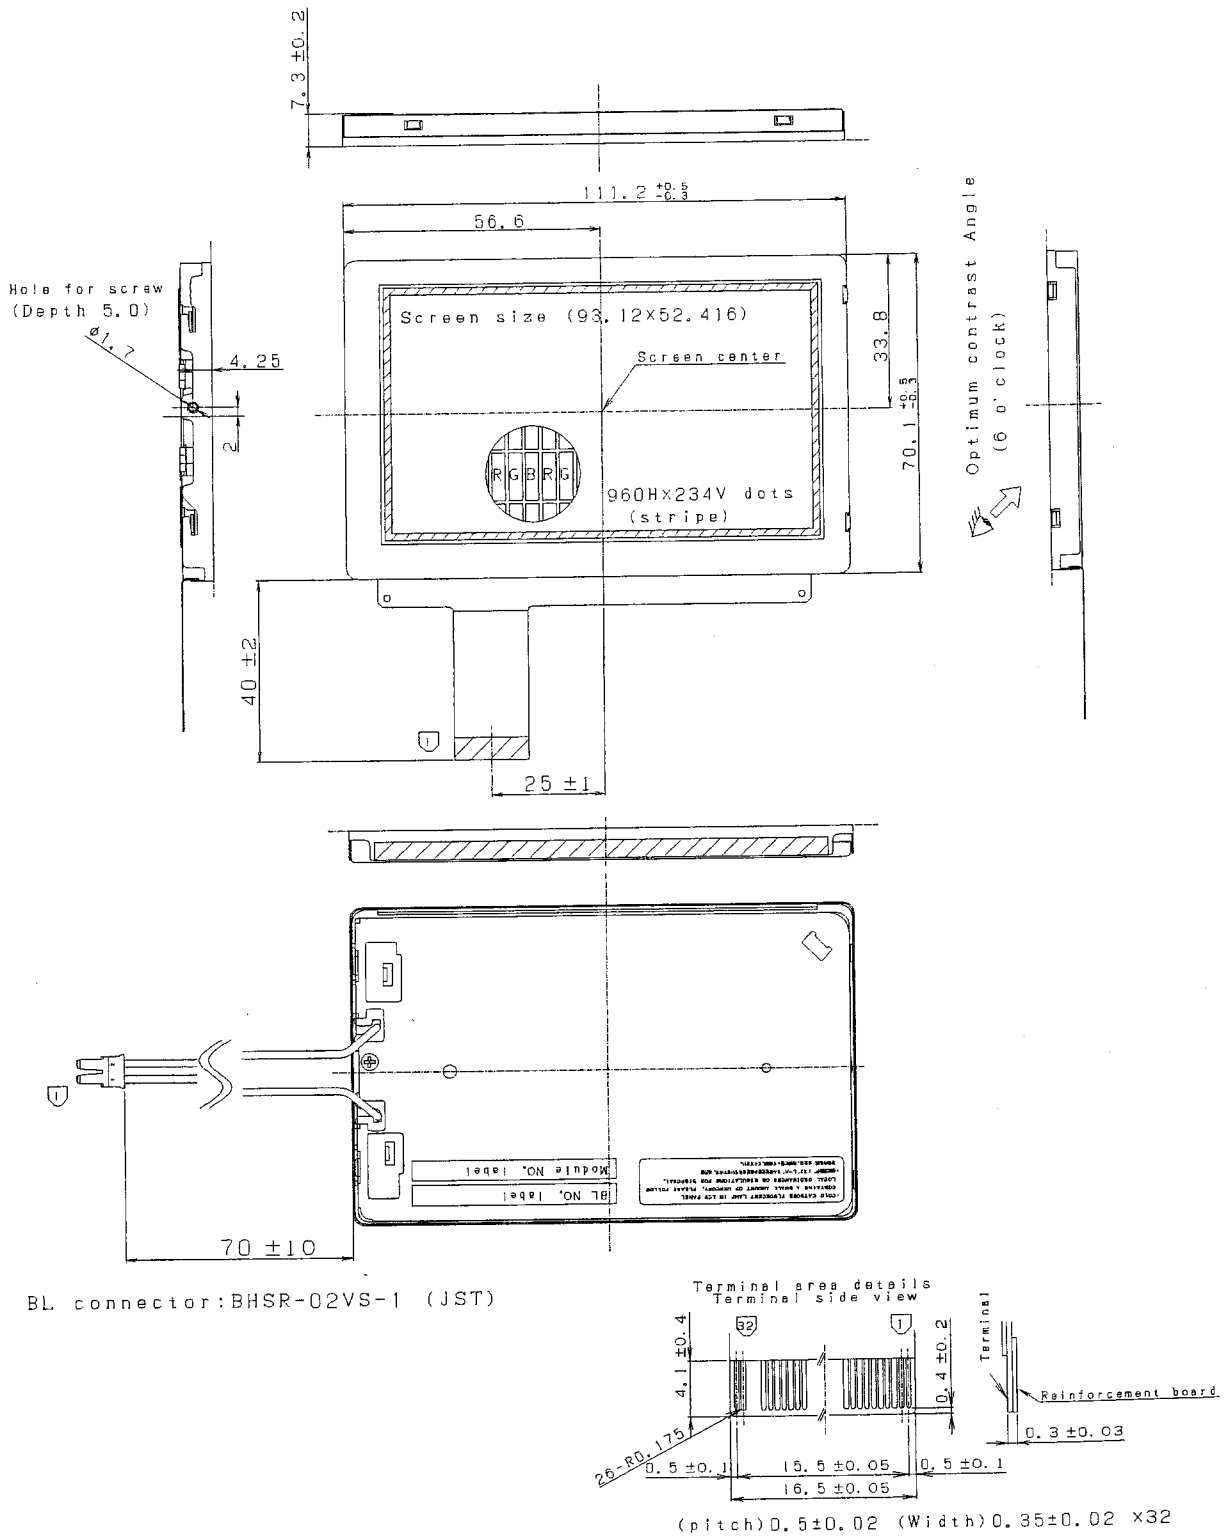

Fig.1 Outline Dimension
(14) Indication of lot number label
- ①Attached location of the label : See Fig. 1
- ②Indicated contents of the label